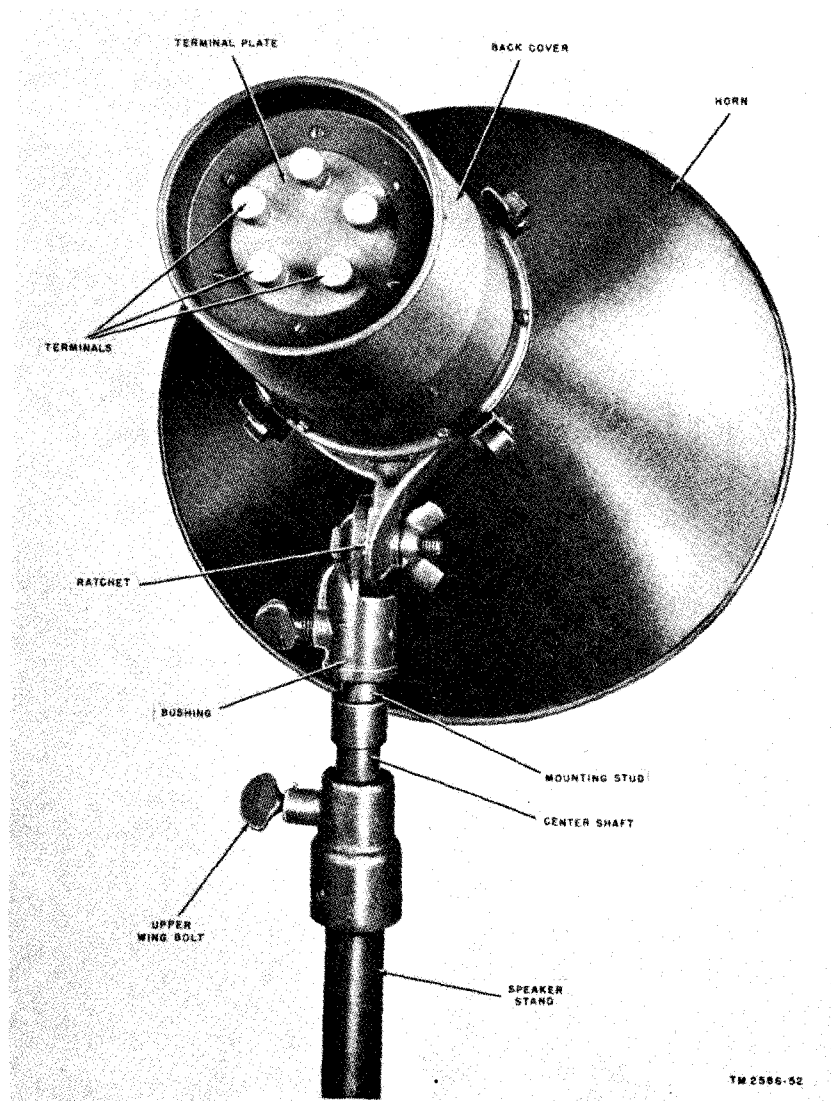

Figure 14. Speaker on stand
(1) Loosen the wing nut on the adjustable ratchet (fig. 14) on the speaker, until the speaker can swivel up and down.
- (1) Loosen the upper wing bolt.
- (2) Extend the center shaft (fig. 14) until the speaker is at the desired height.
- (3) Tighten the upper wing bolt (fig. 14).
- (1) Connect one of the two wires to the lower terminal of the two terminals marked SPEAKERS. The terminals are located on the right side of the amplifier control panel. The lower terminal has a ground symbol marked on the terminal mounting base.
- (2) Connect the other wire to the upper terminal of the two terminals marked SPEAKERS.
- e. Terminate the wire at the speaker (fig. 14) in the following manner:
- (1) Connect one of the two wires to the terminal marked 0 (zero) on the terminal strip located on the rear of the mounting unit. This wire should be the same wire that is connected to the lower SPEAKERS terminal at the amplifier.
- (2) Connect the other wire to the terminal (fig. 14) corresponding with the chart below.